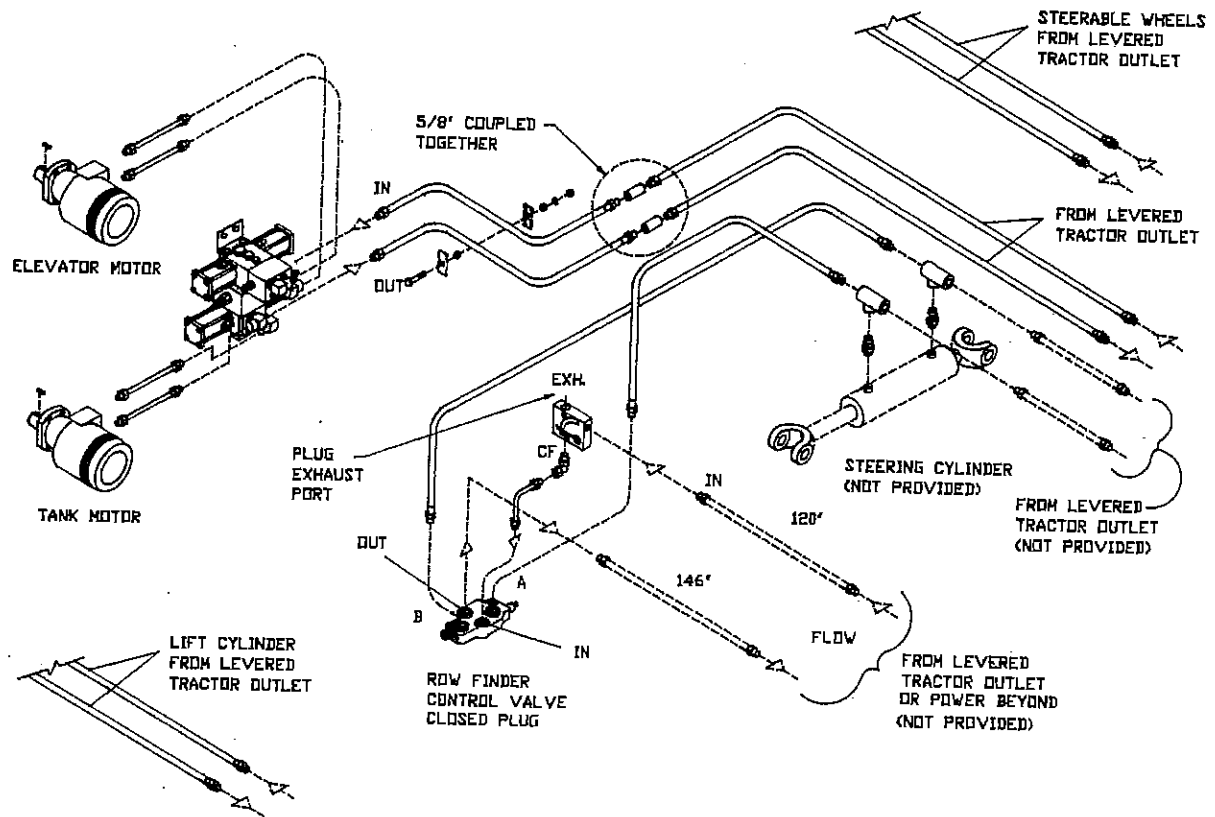

FIGURE 65 - CLOSED CENTER HYDRAULIC SYSTEMS
Tractors with Four (4) Remotes and Power Beyond (See Figure 65)
Tractors with Four (4) Remotes (See Figure 65)
NOTE: If steerable wheels are not being used, the #4 Remote can be used for the row finder, while a separate pair of hoses is used for the elevator and tank chain valve block. (see Figure 65)
Tractors with Three (3) Remotes and Power Beyond (See Figure 65)
NOTE: If steerable wheels are not being used, the #3 Remote can be used to plug in the elevator and tank chain valve block, while Power Beyond is used for the row finder. Adjust flow with the flow divider (see Figure 65)
Tractors with Three (3) Remotes (See Figure 65)
Tractors with Two (2) Remotes and Power Beyond (See Figure 65)